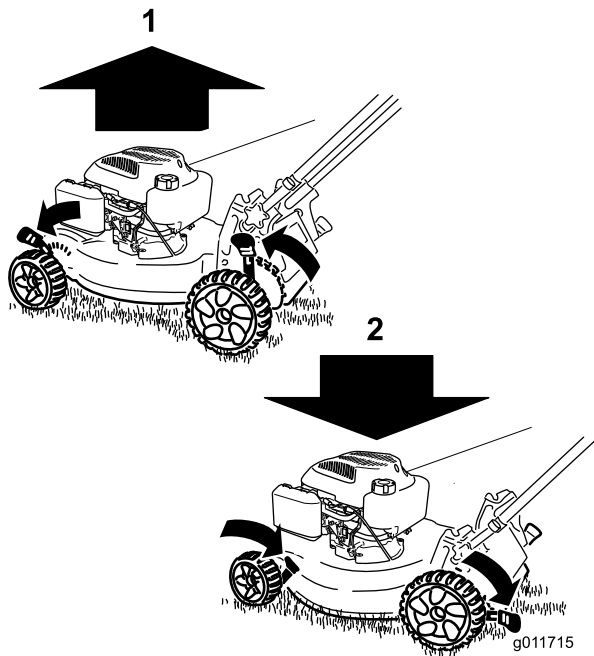

Figure 9
**Note:** To raise the mower, move all the cutting height levers forward; to lower the mower, move all the cutting height levers rearward (Figure 9).